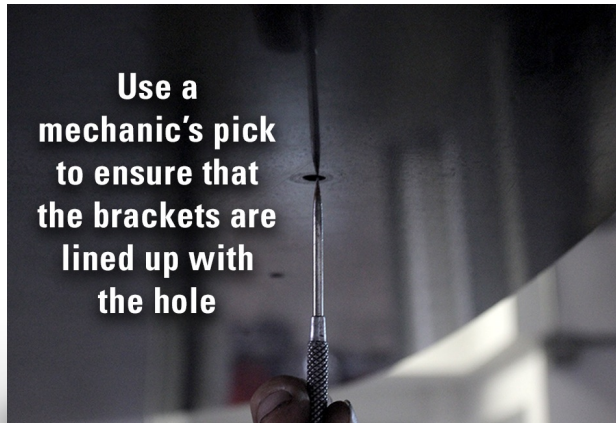

Figure 3
2. By using a mechanic's pick, center the brackets in the hole. *(Figure 3)*